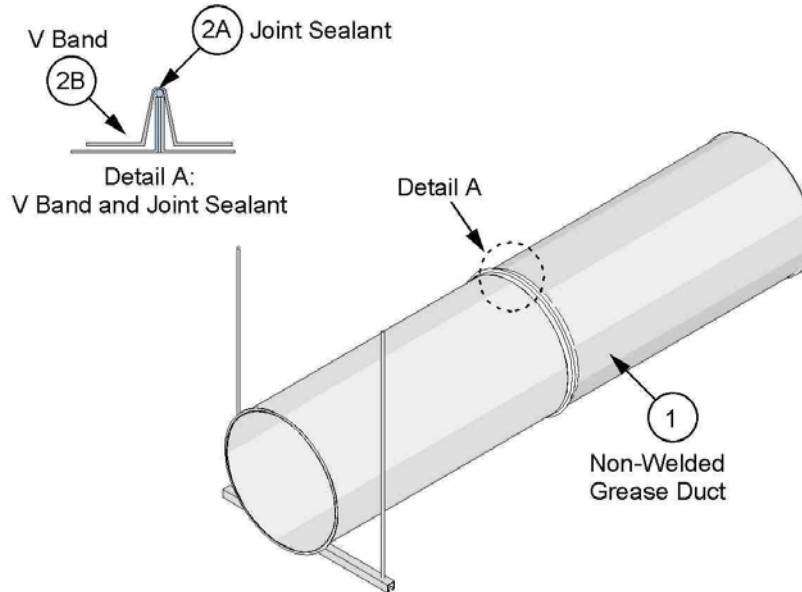

Figure 1. Non-Welded Grease Duct Model No. LDW
B. **V BAND –** Use the supplied V band (see Figure 1). Place the loose V band, filled with sealant (Item 2A), over one of the duct flanges. Join to the other duct flange with the continuous bead of sealant (Item 2A) and rotate slightly to ensure complete coverage of sealant (Item 2A) on flanges. Ensure that the flanges are located within the V band